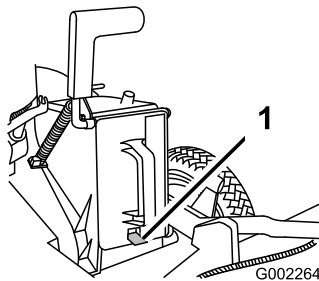

Figure 6
3. Push the plug all the way in until the spring clip on the bottom of the plug clicks into place, locking the plug securely into the discharge tunnel (Figure 6).